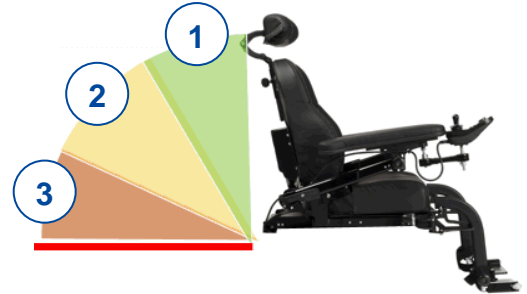

Figure 15 **Backrest inclination**
- the backrest inclination exceeds a certain angle (see figure 15):